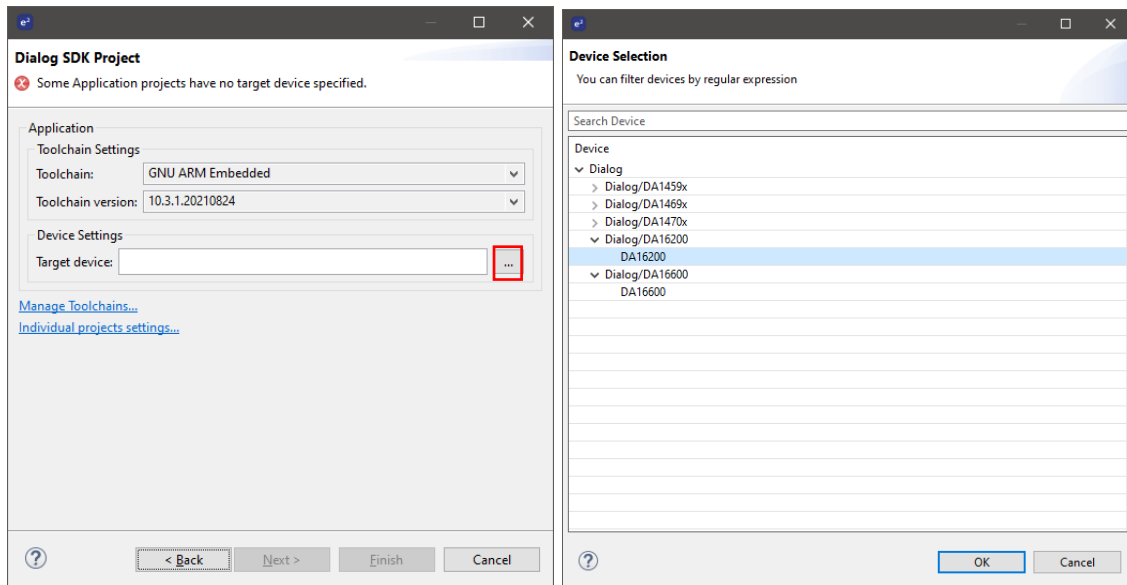

Figure 21. Dialog SDK project
- The Dialog SDK Project window appears as shown in Figure 21. Select Target device da16200 or da16600 by choosing the  button and then click **Finish**.